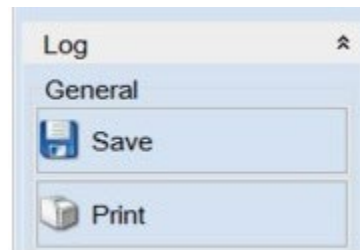

Figure 3. Save Diagnosis Log.
4. It is only possible to deliver the correct control unit if 89 values are read out and transmitted in the global variables under the address DA0002 at the start of the diagnostic session. To check this, save the diagnostic protocol (Figure 3) to the desktop of the scan tool and open it